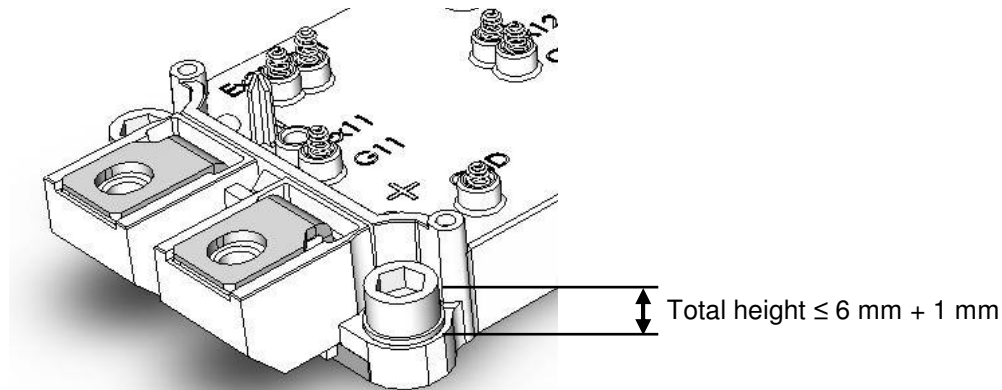

Fig. 2-2 Maximum height of screw plus washer
- ◆ To keep the creepage- and clearance distances, the height of the screw and washer must not exceed 6 mm + 1 mm. Refer also to Fig. 2-2.